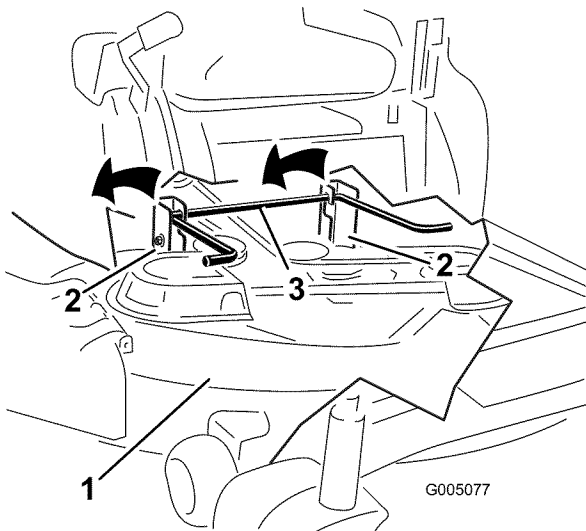

Figure 55
5. Lift the rear of the mower deck and guide the hanger brackets over the rear lift rod (Figure 55).
5. Lift the mower deck and hanger brackets clear of the rear lift rod and lower the mower carefully to the ground (Figure 55).